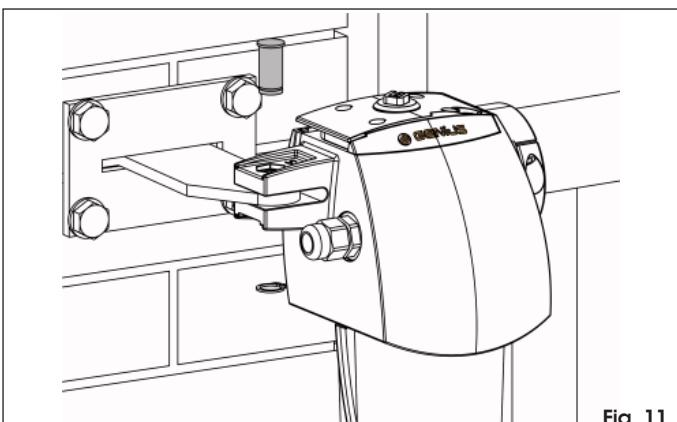

Fig. 11
- Fasten the operator on the rear bracket you have just secured, using the supplied pins and elastic rings (Fig. 11).